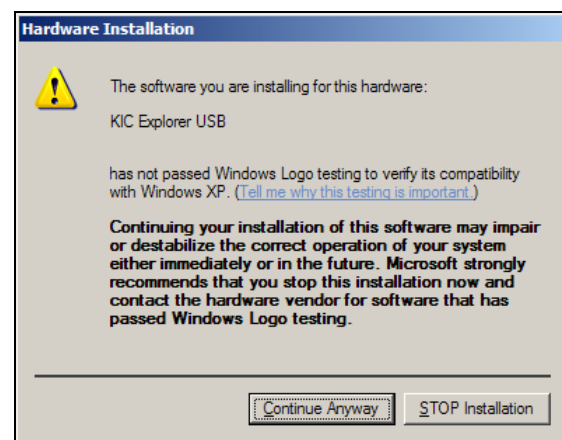

Figure 11: Windows Hardware Installation Compatibility
4. Next, Windows will prompt you regarding “Windows compatibility”. Select the “Continue Anyway” button. See Figure 11.